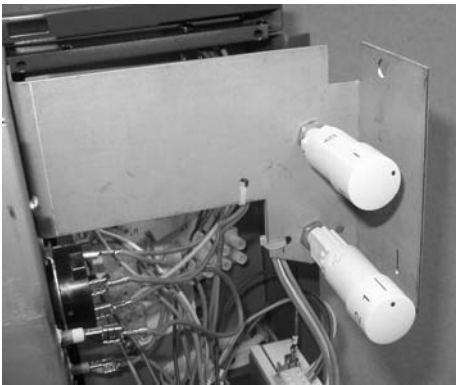

Fig.6 Push on adjuster knob
- Push the adjusting knob onto the spindle of the potentiometer (Fig.6).